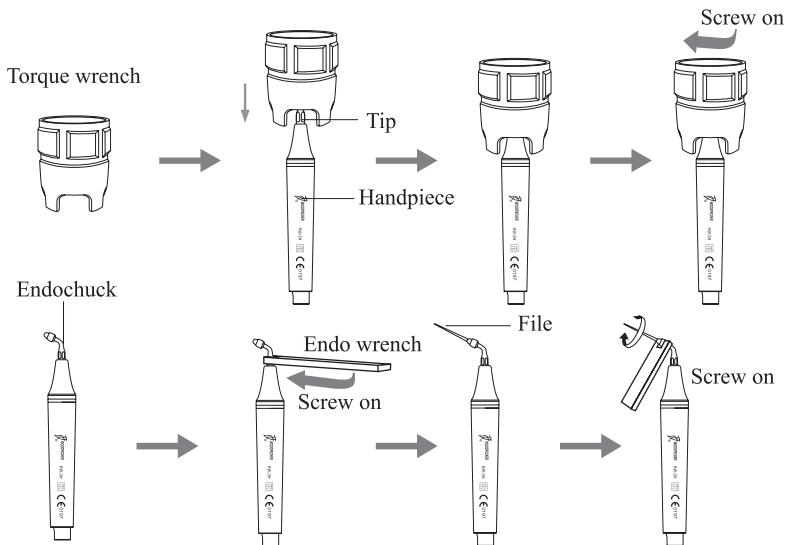

Figure 6
i) Select a suitable scaling tip as you need, screw it on the handpiece tightly by the torque wrench (See Figure 6).
2.1.3 Instruction of torque wrench (See Figure 6)
① Take the scaling tip into the torque wrench, operate as showed in figure 6.
② Tip installation: Hold the handpiece, turn the tip toward direction as showed in figure 6 with the torque wrench. Turn one more circles when the tip stops, then the tip is installed.
③ Tip uninstallation: Hold the handpiece, turn the wrench toward anti-clockwise direction.
④ Sterilize it in sterilizer after each treatment.
⑤ The torque wrench must be cooled naturally after sterilization to avoid scald when using next time.
⑥ Keep the torque wrench in a cool, dry and ventilated place and keep it clean.
- a) Fix endochuck to handpiece by endo wrench (See Figure 6).
The tip is loose because of vibration.	Screw on the tip tightly (See Figure 6).